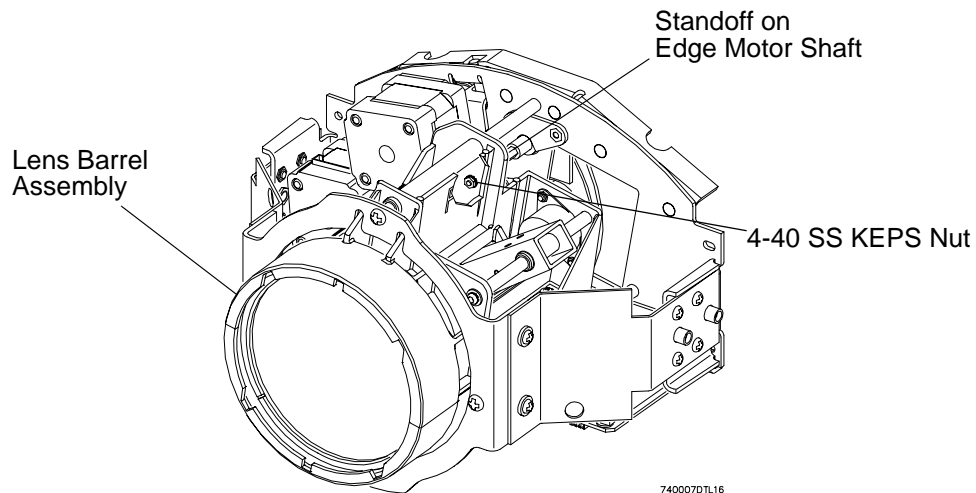

Figure 2-14: Removing Nut From Edge Motor Assembly Shaft
- Step 4. At lens barrel assembly, use pliers to hold standoff on edge motor shaft, and using 1/4" open-ended wrench, remove 4-40 SS KEPS nut from end of motor shaft. **Figure 2-14.**